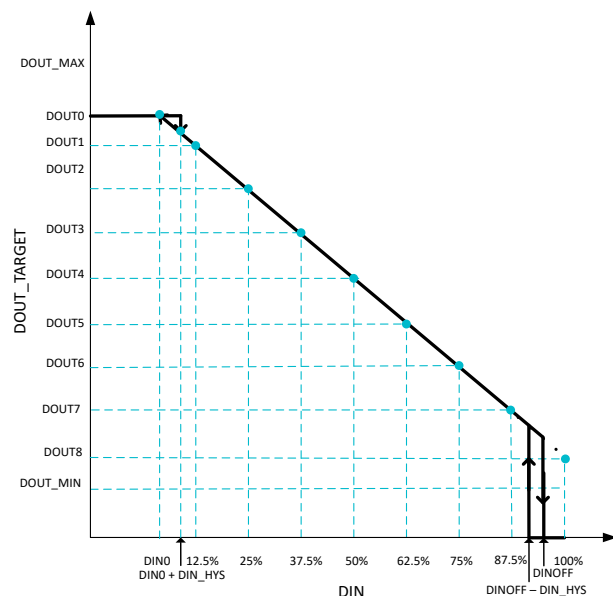
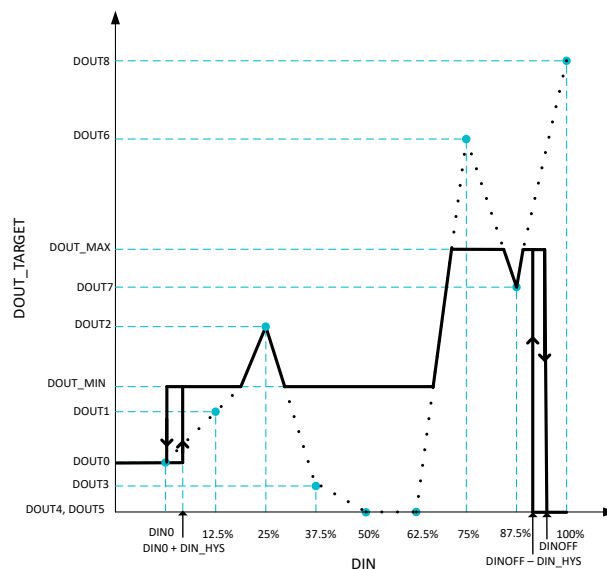

Figure 6-4. Duty Curve - Negative Slope
Figure 6-5. Duty Curve - Mixed Slope
- **DOUTx:** DOUTx sets the output duty at fixed intervals of input duty. DOUT1 sets the target output duty at $DIN = 12.5\%$, DOUT2 sets the target output duty at $DIN = 25\%$ and so forth such that DOUT8 sets the target output duty at $DIN = 100\%$. DOUTx can be used to configure positive slope duty curve as shown in Duty Curve. DOUTx can be also used to configure negative slope as shown in Figure 6-4. DOUTx can also be used to configure mixed slope (positive, negative and zero) as shown in Figure 6-5.